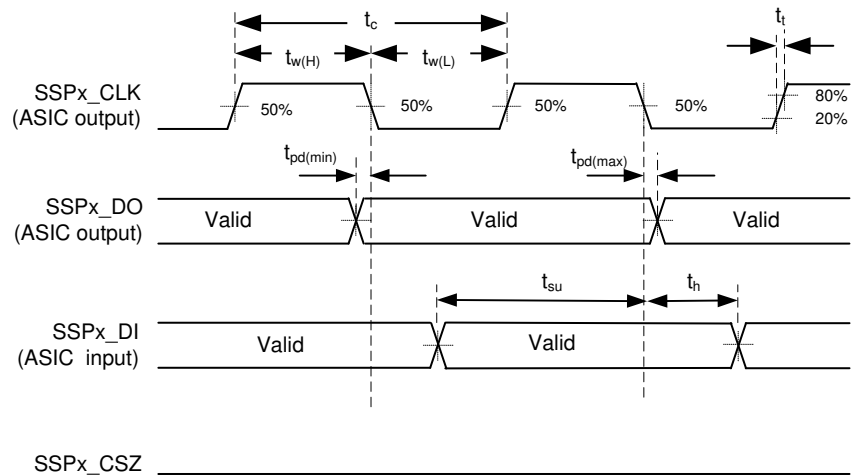
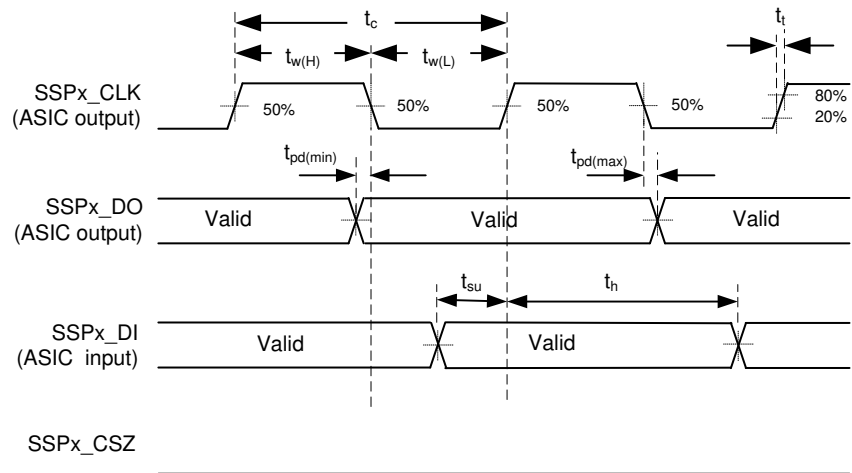

图 6-10. Synchronous Serial Port Interface - Master (Modes 0/3)
图 6-11. Synchronous Serial Port Interface - Slave (Modes 0/3)
- (1) The SSP is configured into four different modes of operation by the controller firmware. These modes are shown in 表 6-2, 图 6-10, and 图 6-11.
- (2) Modes 0 and 3
- (3) Modes 1 and 2